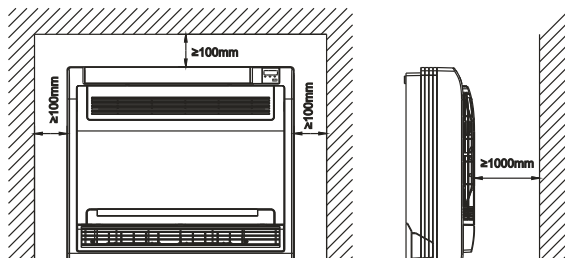

Fig.50-2
- There is enough room for installation and maintenance.(Refer to Fig.50-2 & Fig.50-3)